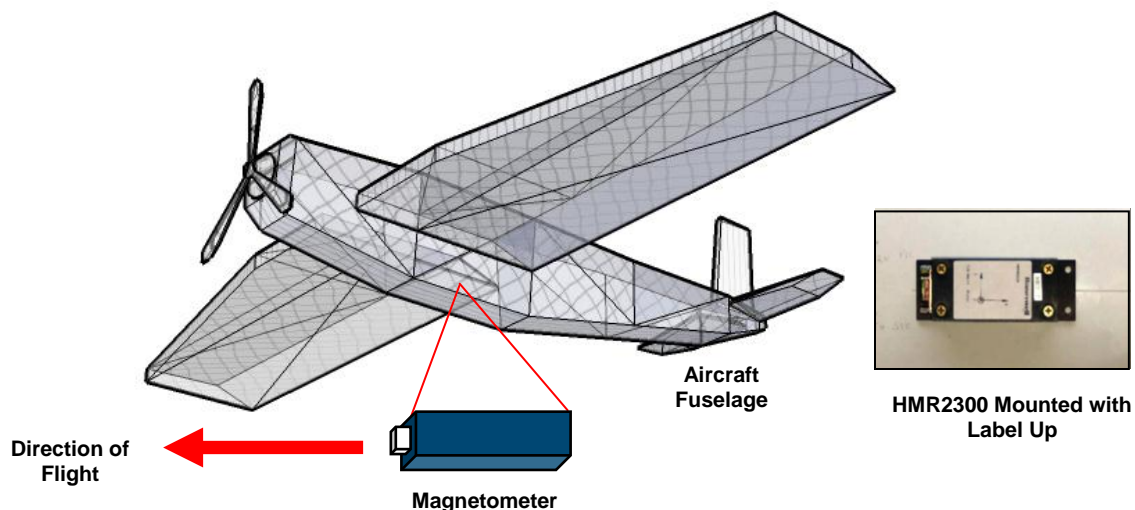

Figure 1 - Magnetometer Orientation
- The connector of the magnetometer should be pointing toward the direction of flight and mounted inside the fuselage (see **Figure 1**).